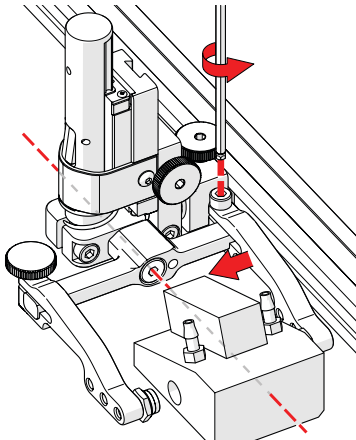

Fig. 55 - Adjust inner arm
4. Position the wedge on the inner probe holder arm (Fig. 55).
**TIP:** The probe holder yoke can accommodate many different probe and wedge sizes of varying widths. It is best to centre the wedge with the yoke's pivot axis. This can reduce wedge tipping when scanning. Position the inner probe holder arm accordingly (Fig. 55) using the supplied 3 mm hex driver (Fig. 1).